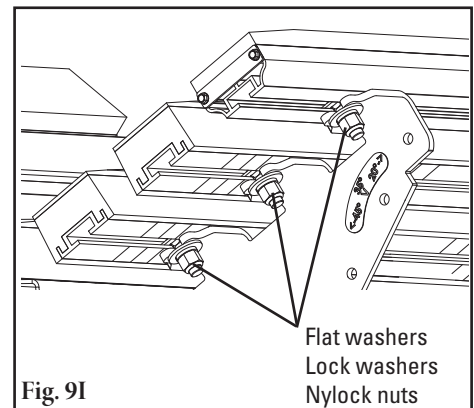

Fig. 9I
- 9I. Fasten all impact bars. With all impact bars correctly positioned on the wing assemblies, install on each stud a flat washer, lock washer and a nylock nut (Fig. 9I). Tighten to 135N-m torque.